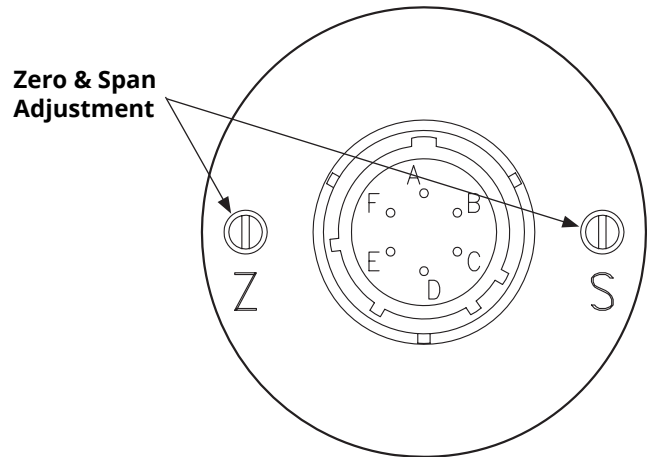

Figure 7.1
IMPORTANT: Do not make changes to the Span adjustment (the "S" pot to the right, see Figure 7.1) as part of the zero trimming. The Span should only be changed as part of the recalibration of a gauge with a known pressure source.
- Apply full scale pressure to the pressure port and adjust the Span ("S") pot (on the right of Figure 7.1) until the full scale signal is reached.